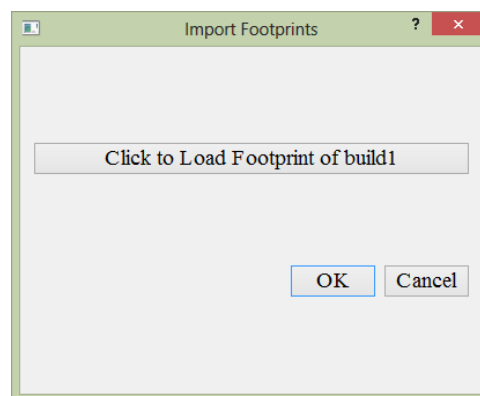

Fig 19: Import Footprints window
- Click on *Load KML Files* to import the footprint (in KML file format) of the building to the project folder. A new window will open (see Fig 19) that will allow the user to select the footprint files (in .kml file format). (*KML files for two buildings are given in the Sample Data*)